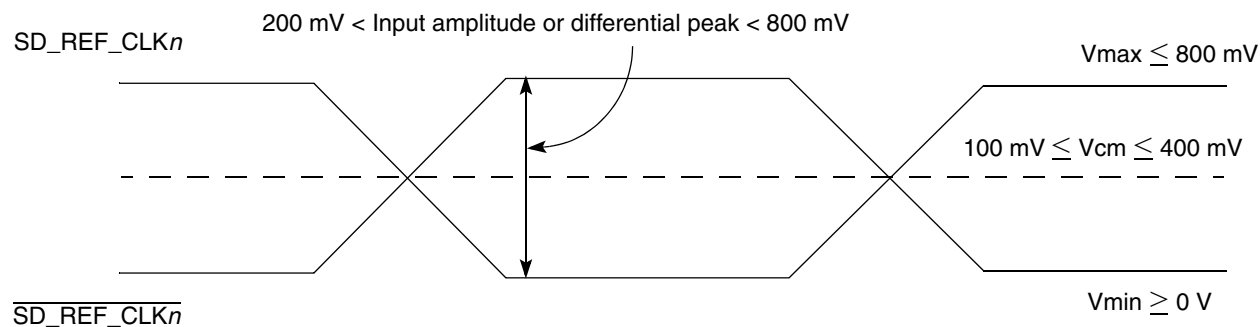

Figure 38. Differential reference clock input DC requirements (external DC-coupled)
- For an external DC-coupled connection, as described in Section 2.20.2.1, “SerDes reference clock receiver characteristics,” the maximum average current requirements sets the requirement for average voltage (common mode voltage) as between 100 mV and 400 mV. Figure 38 shows the SerDes reference clock input requirement for DC-coupled connection scheme.